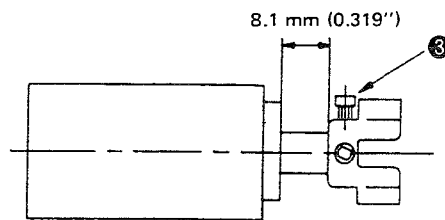

Fig. 5-45-2
- Assemble the coupling on the shaft side motor with a space of 8.1mm (0.318") from the motor. (Fig. 5-45-2)